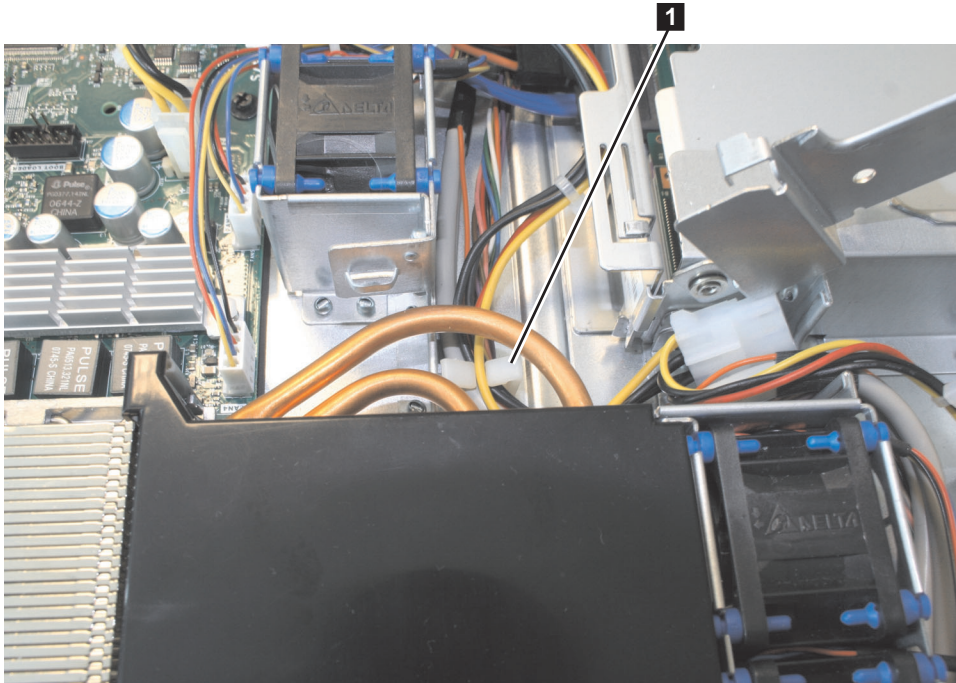

Figure 157. The retention clip for the SAN Volume Controller 2145-8A4 power-supply cables
6. Route the power-supply cable with the P5 connector to the CD/DVD interface card and secure it under the retention-clip **1**, as shown in Figure 157 on page 165, on the chassis.